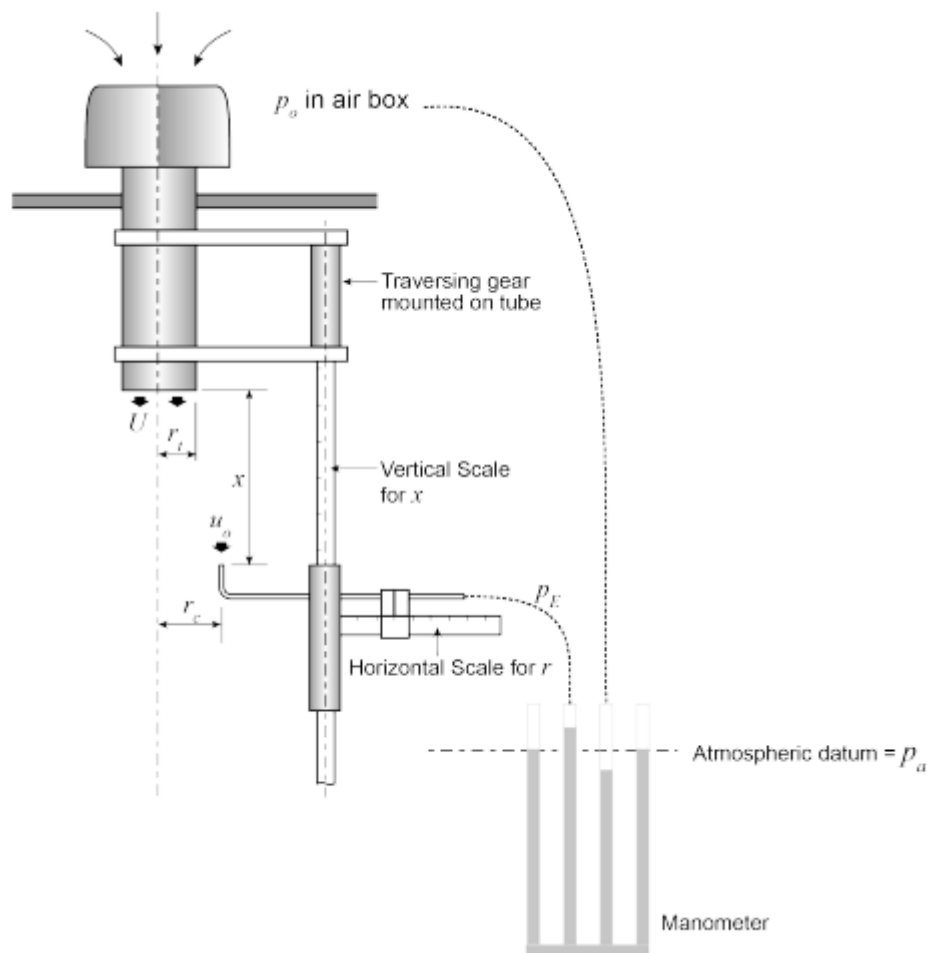

Fig. 2: Arrangement of the apparatus.
1. Connect the pressure tapplings from the Air Box and Pitot probe as shown in Fig. 2.